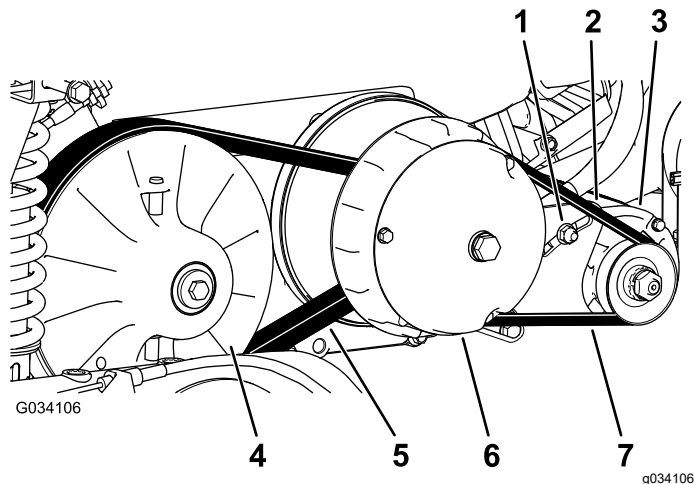

Figure 66
6. Rotate and inspect the belt (Figure 66) for signs of excessive wear or damage.
3. Rotate and route the belt over the secondary clutch (Figure 66).
4. Remove the belt from the primary clutch (Figure 66).
5. Align the new belt over the primary clutch (Figure 66).
6. Rotate and route the belt over the secondary clutch (Figure 66).
2. Loosen the pivot nut for the starter generator (Figure 66).
4. Apply downward pressure to the pry bar to rotate the starter down in the slot until the belt tension only allows 6 mm (1/4 inch) belt deflection with 44 N·m (10 ft-lb) of force (Figure 66).
5. Tighten the pivot nut hand tight, and remove the pry bar (Figure 66).